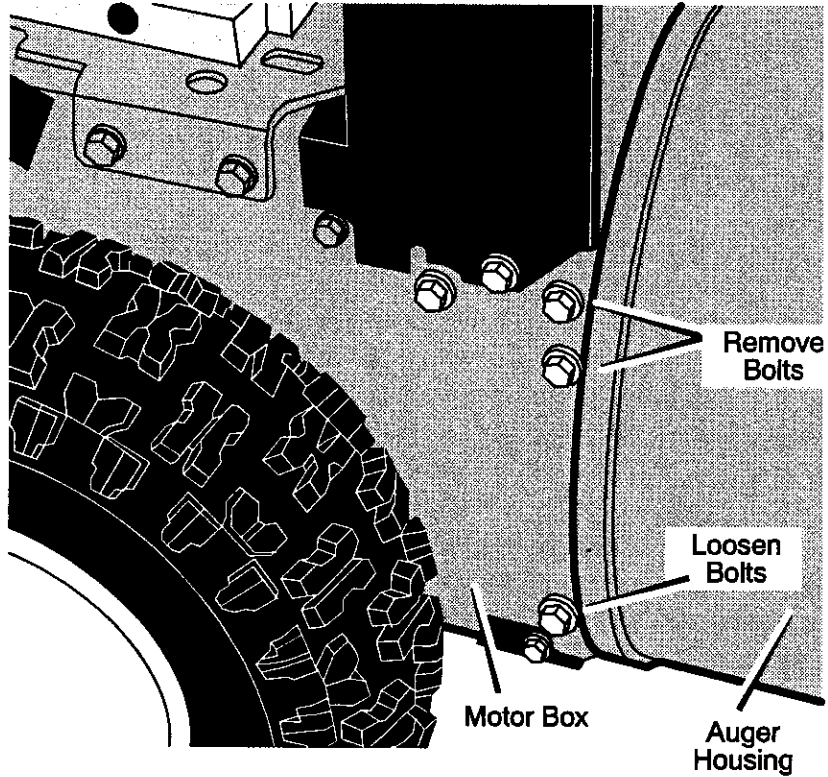

Figure 28
8. Remove the top four **bolts** that hold together the **auger housing** and the **motor box**. Loosen the bottom two **bolts**. The **auger housing** and the **motor box** can now be split apart for removal of the belt (see Figure 28).